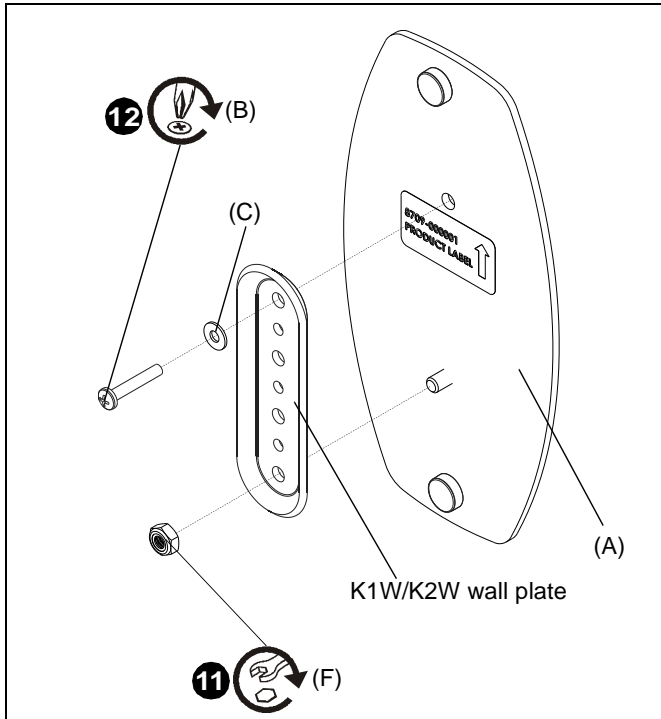

Figure 6
11. Use 1/4-20 hex nut to secure K1W/K2W Series wall plate (included with K1W/K2W mount) to adapter plate (A). (See Figure 6)
12. Use 1/4-20 x 1 3/4" Phillips pan machine screw (B) and 1/4" washer (C) to secure K1W/K2W Series wall plate to adapter plate (A). (See Figure 6)